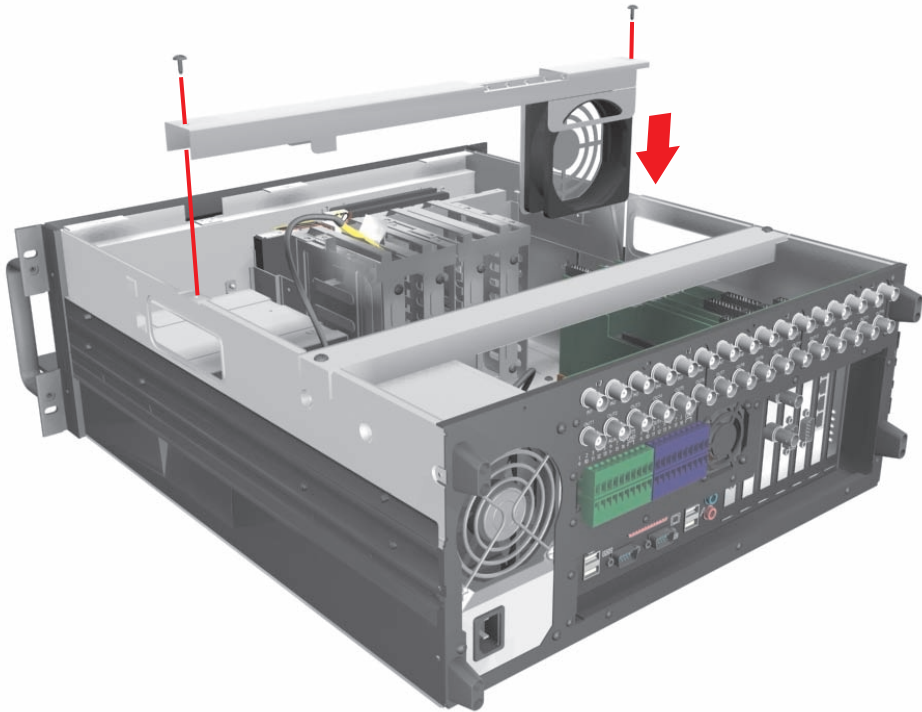

Figure 19. Replacing Front Cross-Brace
1. Replace the front cross-brace and secure it with the flat-head screws you set aside earlier. Refer to Figure 19.